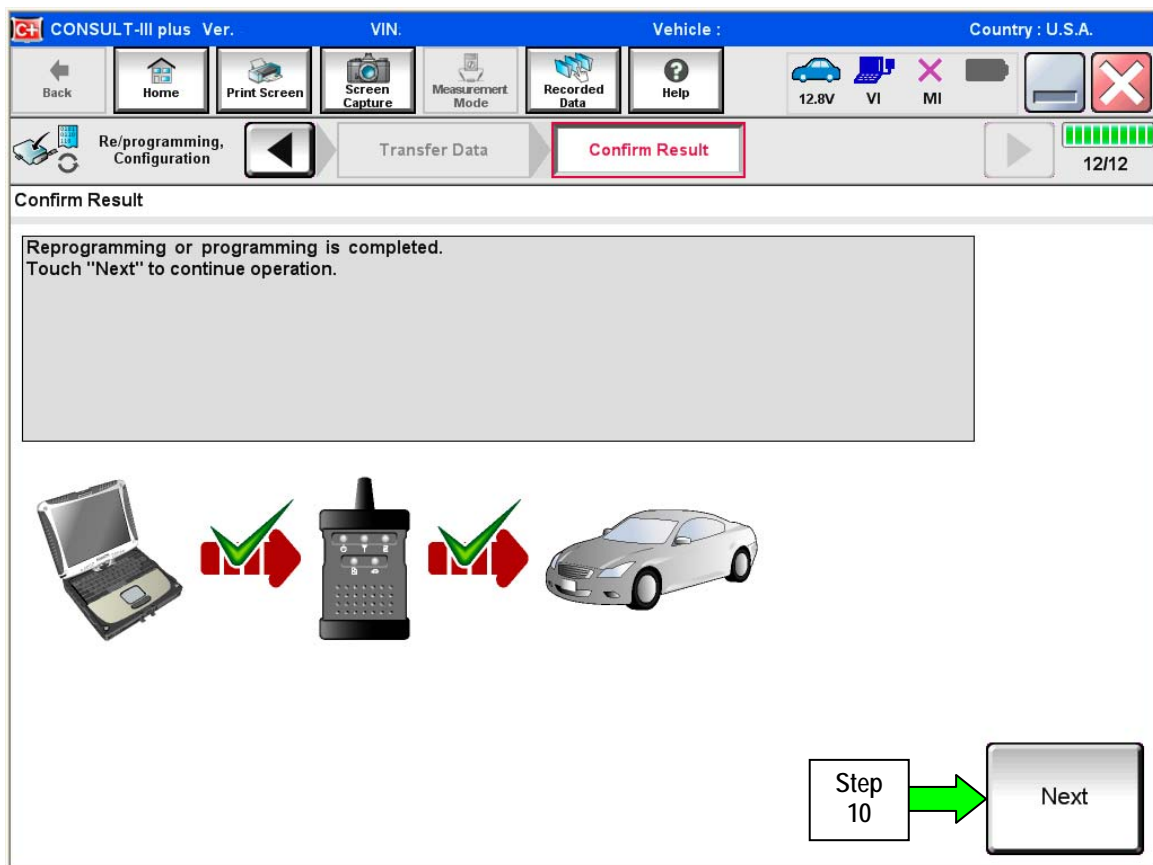

Figure 4
8. When the screen in Figure 4 displays, reprogramming is complete.
NOTE: If the screen in Figure 4 does not display (reprogramming does not complete), refer to the information on page 8.